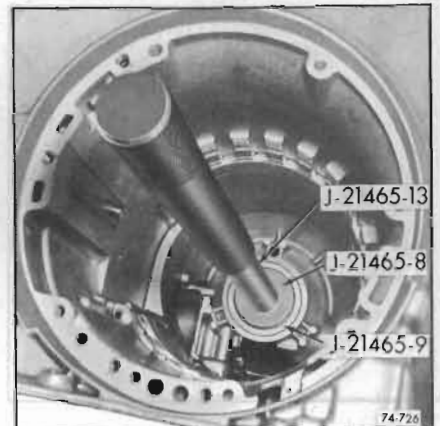

Figure 74-726
b. Using Adapter J-21465-9 on J-21465-8 install new bushing. See Figure 74-726.